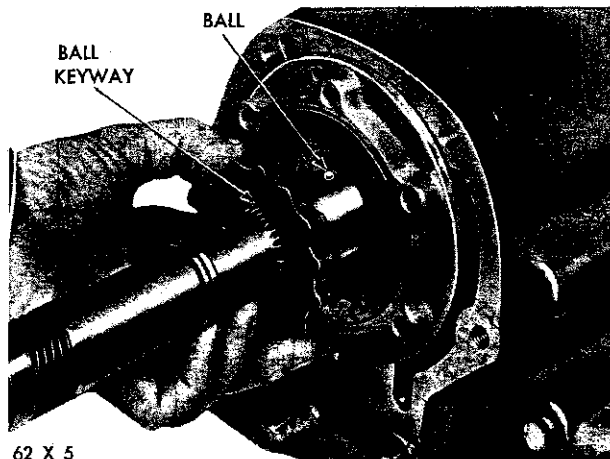

Fig. 39—Removing or Installing Rear Oil Pump Inner Rotor
out the inner rotor so as not to lose the ball (Fig. 39). Remove the outer rotor from the pump body.
- (1) Place the outer rotor in the pump body.
- (2) Turn the output shaft so the inner rotor driving ball pocket is up. Install the ball and slide inner rotor on the output shaft in alignment with the ball and outer rotor (Fig. 39).